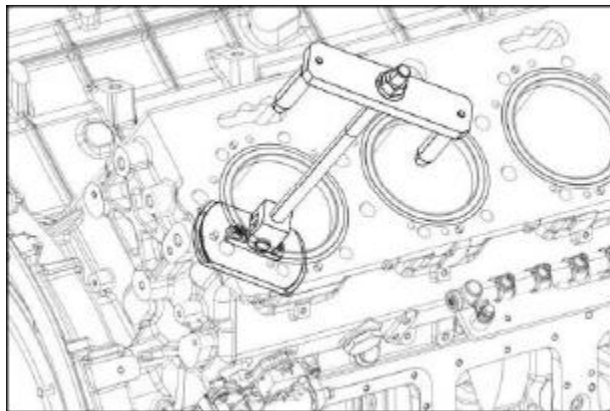

Figure 86.
2. Install the extraction tool (Figure 86).